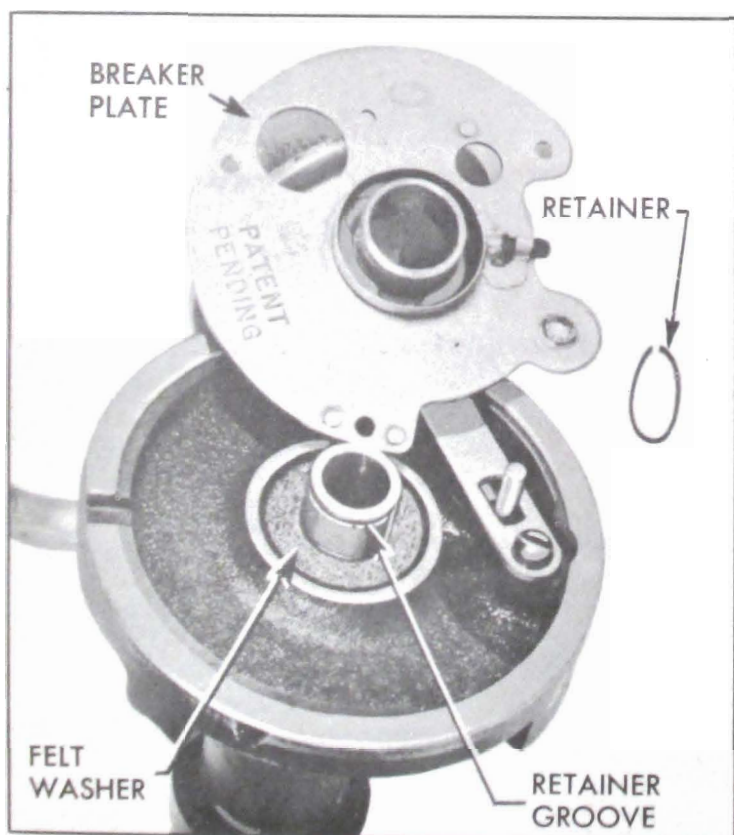

Figure 10-48—Installing Breaker Plate and Retainer
2. Install felt washer over upper bushing and apply a few drops of light oil. Then place breaker plate over upper bushing and vacuum advance link. Install retainer on upper bushing. See figure 10-48.